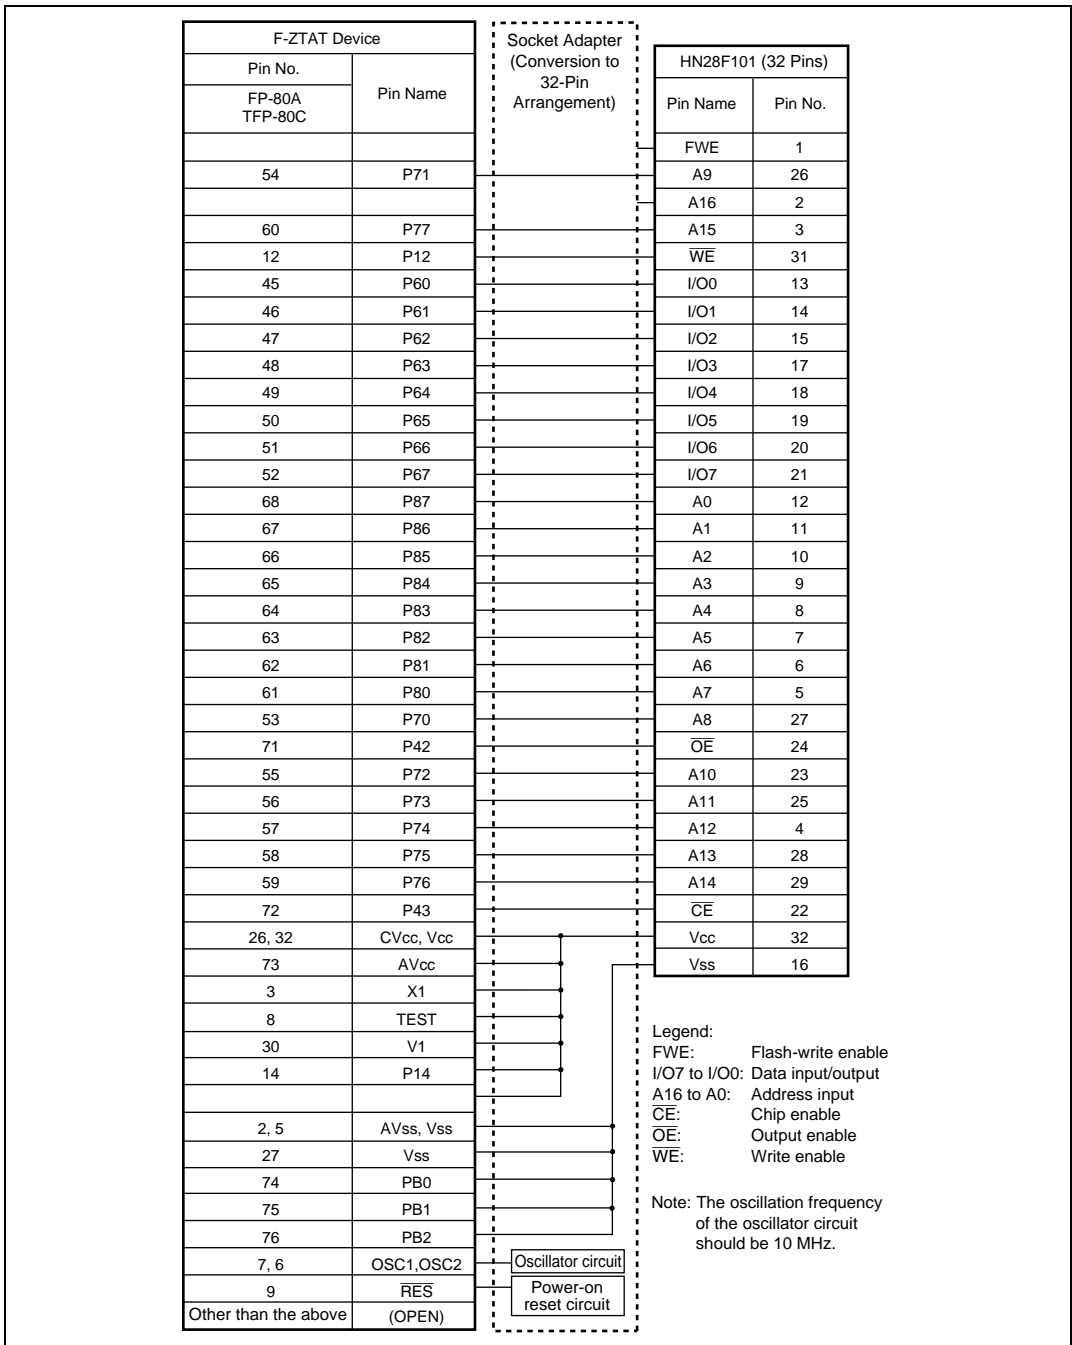

Figure 6.12 Socket Adapter Pin Correspondence Diagram
5. The time during which the P bit is set to 1 is the programming time. Figure 6.12 shows the allowable programming times.
The socket adapter converts the pin allocation of the F-ZTAT device to that of the discrete flash memory HN28F101. The address of the on-chip flash memory is H'0000 to H'FFFF. Figure 6.12 shows a socket-adapter-pin correspondence diagram.